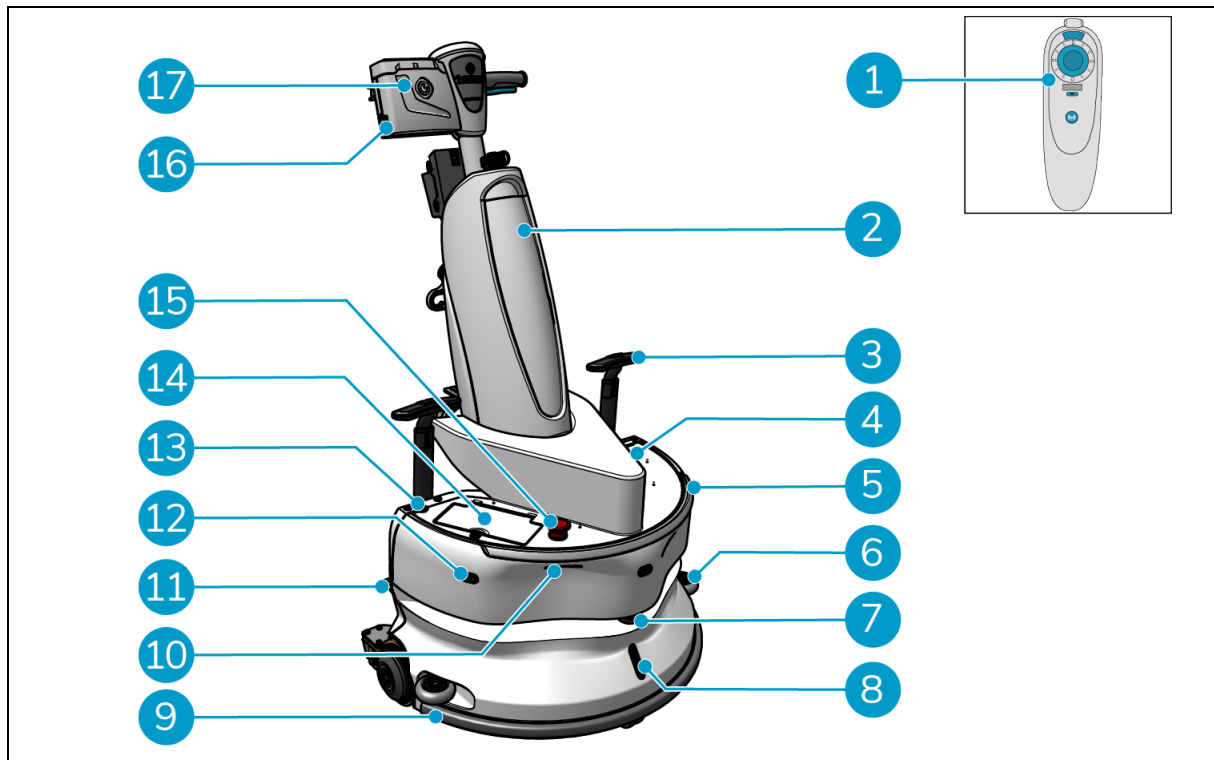
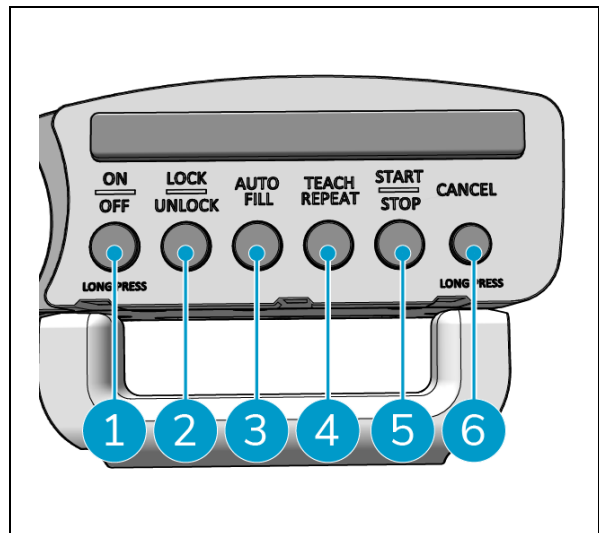

Figure 5
Figure 7
Before removing the batteries, make sure to turn off the i-walk via the power button on the main unit (see Figure 5, pos. 13) and the ON/OFF button on the handle controller (see Figure 7, pos. 1). Removing the batteries without turning off the i-walk may result in the battery 'sparking' and causing problems with the connectors.